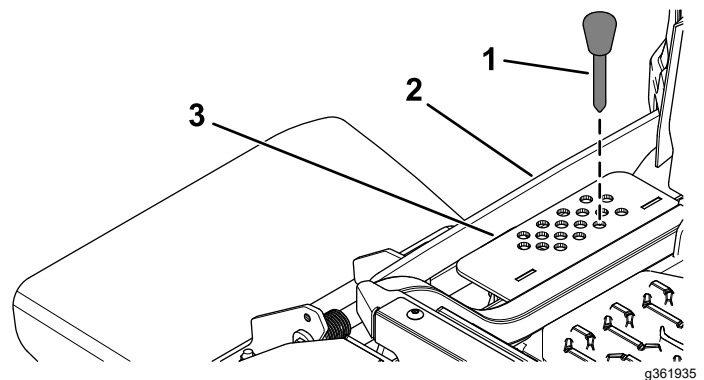

Figure 29
2. Select a hole in the height-of-cut bracket corresponding to the height of cut desired, and insert the pin (Figure 29).
3. Push down on the deck-lift switch until the height-of-cut linkage slightly contacts the height-of-cut pin (Figure 29).